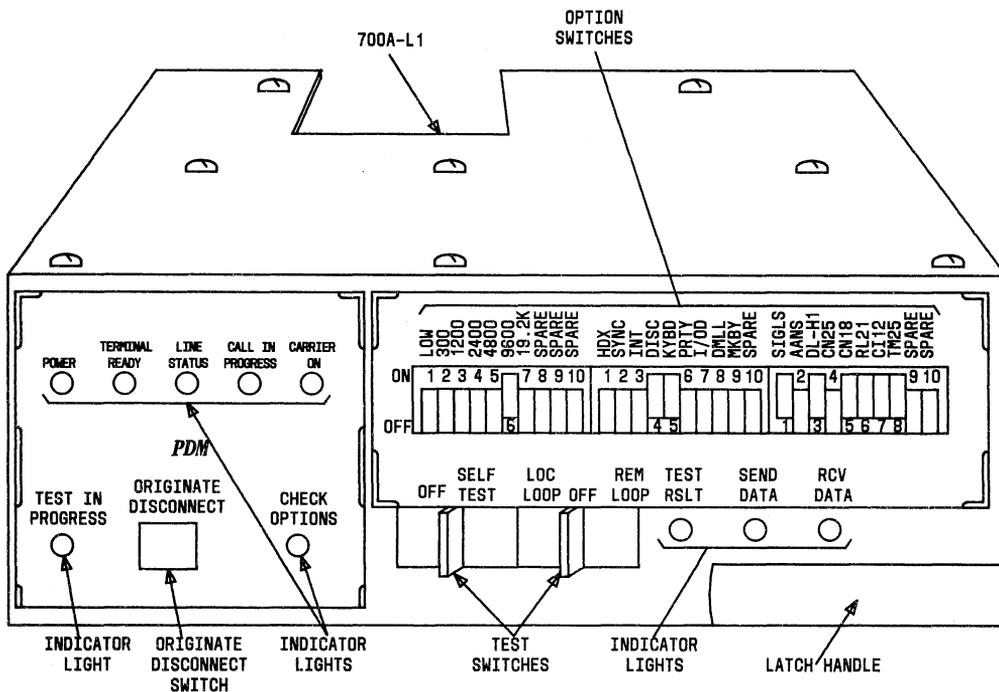

Fig. 2—Front View of PDM Circuit Pack
2.01 The PDM circuit pack (700A-L1) is composed of a printed circuit board with protective shields attached to a faceplate (Fig. 2). The circuit pack is mounted either in a 70A stand-alone mounting or in a 71A multiple mounting.
2.04 The faceplate on the PDM circuit pack contains ten LED indicators, two paddle switches, a pushbutton switch, and customer option switches. By reversing and rotating the faceplate labels, the labels can be arranged for either stand-alone or multiple mounting. The designations adjacent to the indicators identify the functions being monitored. The indicators (Fig. 2) and their function are as follows: